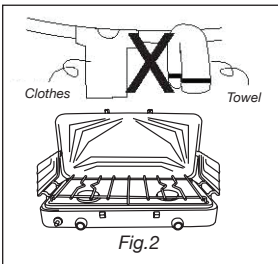

Fig.2
- Use for cooking only. Do not dry towels, clothes, or anything else over it. (Fig.2)